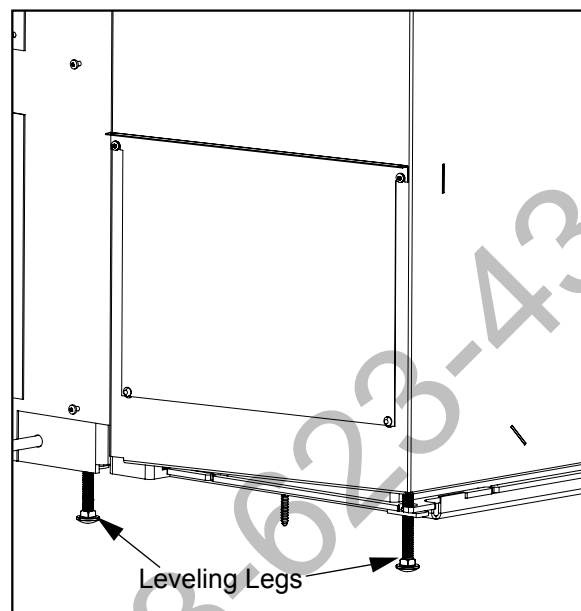

**Figure 13: Attaching removable flue collar.**
- a)** Remove the rear two (2) secondary air tube and C-Cast Ceramic Baffles, if installed (see C-CAST CERAMIC BAFFLE INSTALLATION). Remove the secondary air tubes by placing a screwdriver (any style except flat head) into one of the air holes and tapping it with a hammer/mallet to the left.
- b)** Unscrew the two (2) nuts on top of the inside of the firebox, using a  $\frac{9}{16}$ " wrench or socket (see Figure 13). The Flue Collar Clamps will slide off the bolts.